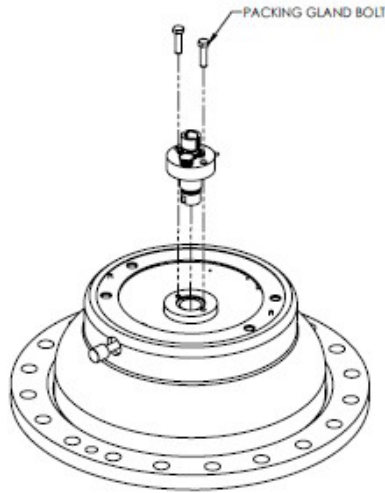

Figure 35 – Packing Gland Bolts
- Install all remaining parts and accessories, including the packing gland (See Figure 35). Torque packing gland screws per Table 12.